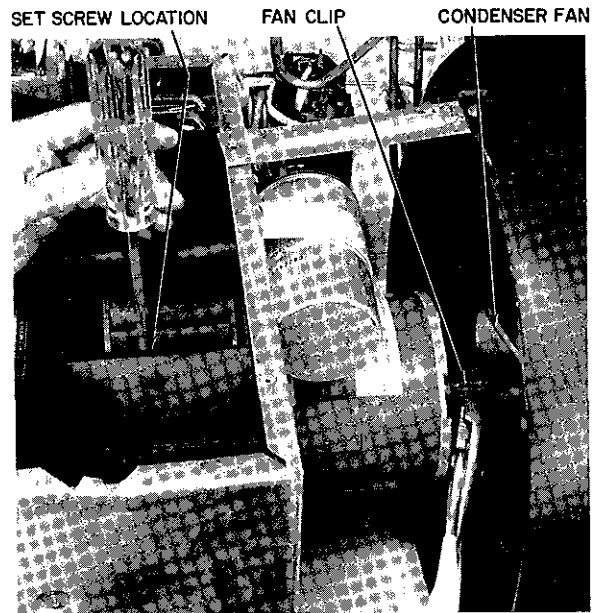

Fig. 14 — Blower Set Screw and Condenser Fan Clip
- a Loosen set screw on blower wheel. See Fig 14
- b Remove clip from condenser fan. See Fig 14
14 Condenser Fan — See Condenser Fan in Fig 14
- b Remove clip from condenser fan as shown in Fig 14.
- 15 Evaporator Blower** — See Evaporator Blower in Fig 14